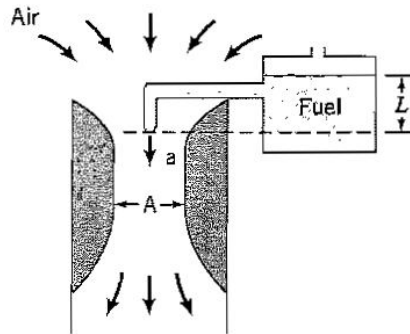

Figure P7.14
7.14 A simple carburetor is sketched in Figure P7.14. Fuel is fed from a reservoir (maintained at a constant level) through a tube so as to discharge into the airstream through an opening where the tube area is a . At this point, the flow area for the air is A and the fuel level is a distance L higher. Let the density and mass flow rate for the air and fuel be ρ_a , \dot{m}_a and ρ_f , \dot{m}_f respectively.